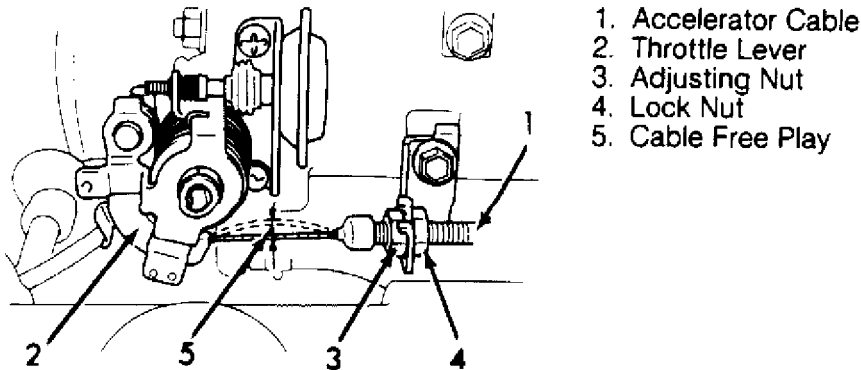

Fig. 8: Adj. Typical Acc. Cable Play (Samurai, Sidekick TBI & Swift)
1) Ensure throttle cable has 0.4-0.6" (10-15 mm) free play. Hold exposed portion of cable at center and move cable up and down to measure play. Use lock nut and adjusting nut on cable bracket to adjust free play. See Fig. 8.
1) Ensure cable has 0.4-0.6" (10-15 mm) free play. Hold exposed portion of cable at center and move cable up and down to adjust free play. See Fig. 8.
Ensure cable has .12-.20" (3.0-5.0 mm) free play. Hold exposed portion of cable at center and move cable up and down to measure free play. Use lock nut and adjusting nut on cable bracket to adjust free play. See Fig. 8.
2) Operate throttle lever to increase and decrease engine RPM while noting RPM at which dashpot rod contacts throttle lever. Adjust dashpot adjusting screw to specified RPM at which dashpot rod should contact throttle lever. See Figs. 8 and 13. See DASHPOT ADJUSTMENT table.